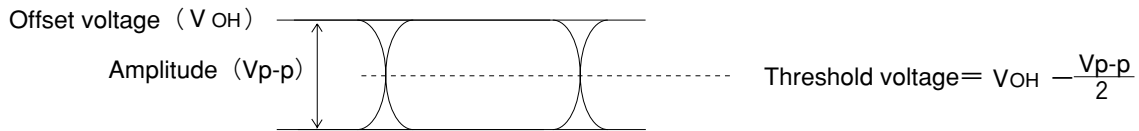

Fig. 4-1-1
- ① Press the GND key. The GND LED lights.
- ② Turn the DATA rotary encoder and set the DATA threshold value. (See Fig. 4-1-1 to 4-1-3.)